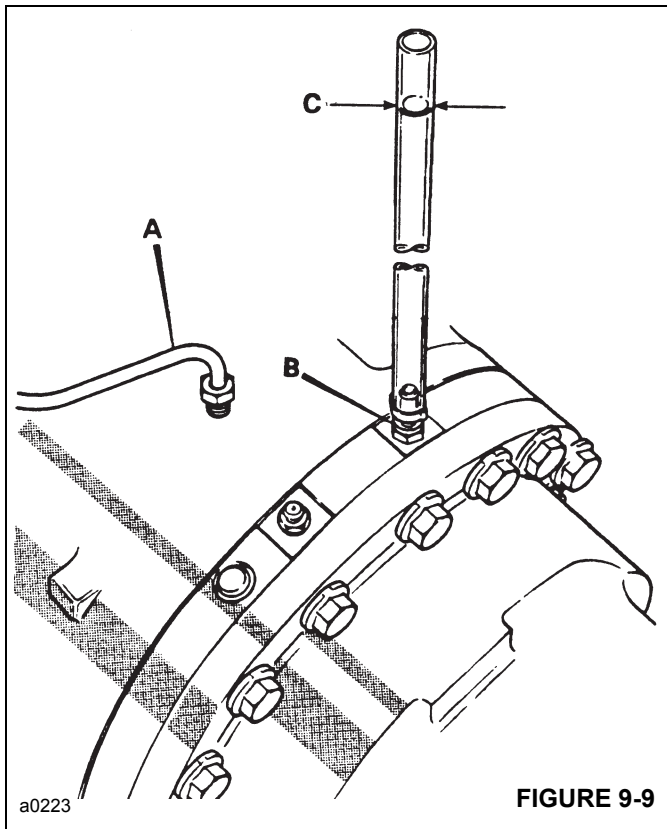

FIGURE 9-9
- a. Install an adapter fitted with a piece of clear tube (approximately 120 mm (4.75 in) long to the brake piston port **B** Figure 9-9.